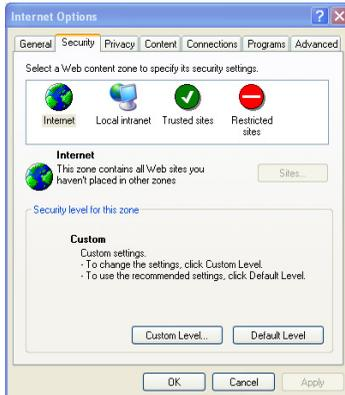

Fig 8-1
Step 2: Select Security→Custom Level. Refer to Fig 8-1